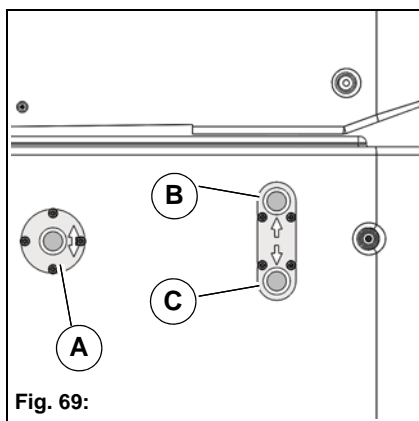

Fig. 69:
- Raise tipper body: press the button **Fig. 69-A** and the button **Fig. 69-B** simultaneously
- Lower tipper body: press the button **Fig. 69-A** and the button **Fig. 69-C** simultaneously